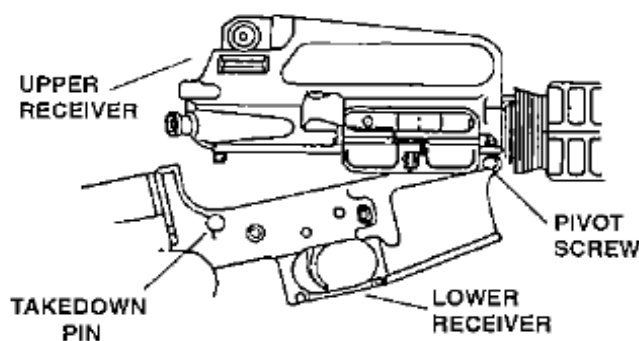

FIGURE 11 - RECEIVERS SEPARATED
- By using a small diameter drive tool, push both takedown pins from left to right until they stop (Figure 11)